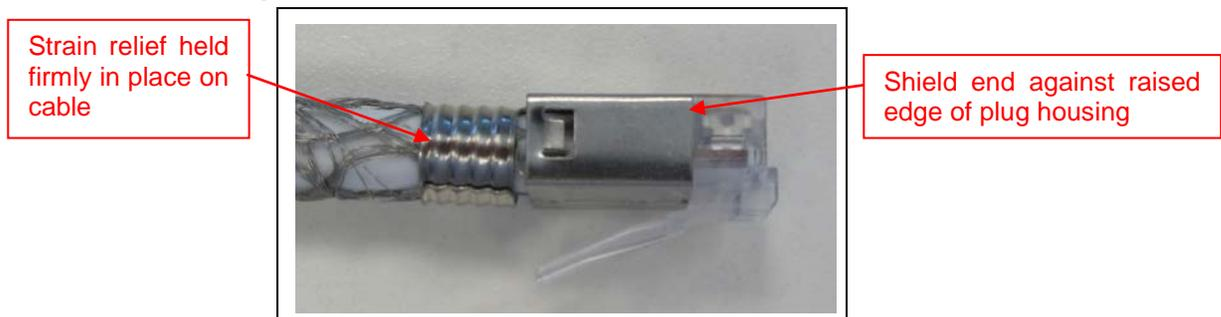

**Figure 12. Orient Shield**
1. Shield orientation: Place the shield so the slots are in the same side as the contacts. See Figure 12.